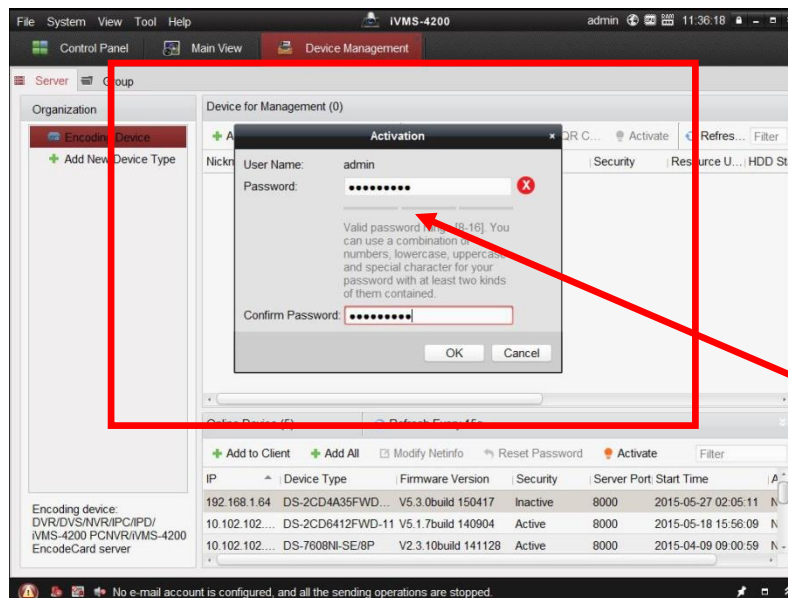
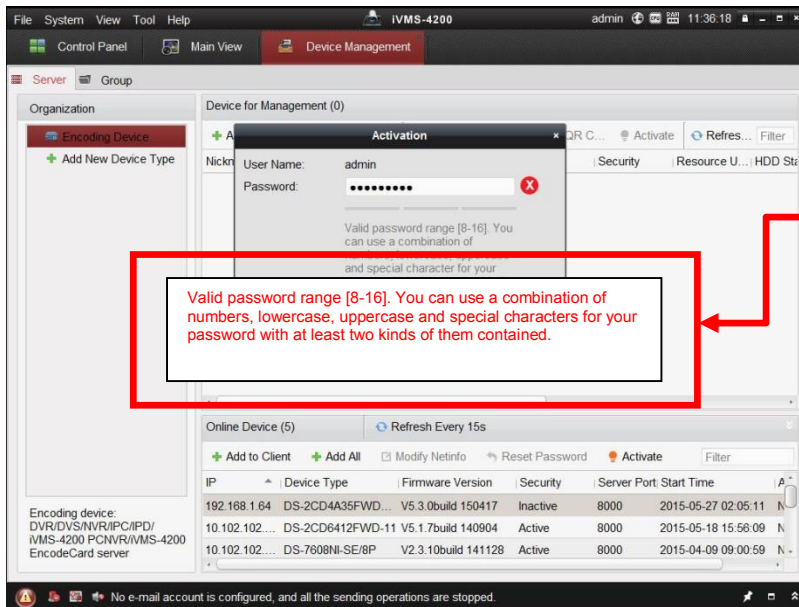

Figure 36 Risky (Inadequate) Password Strength
Figure 37 Risky (Inadequate) Password Warning Window
- Bar length indicates strength level (**Figure 36**).
- If the password is unacceptable strength ("Risky," **Figure 36**), a white X will appear in a red circle to the right of the password field and a warning dialog box will be displayed (**Figure 37**) explaining the requirements for an acceptable password.